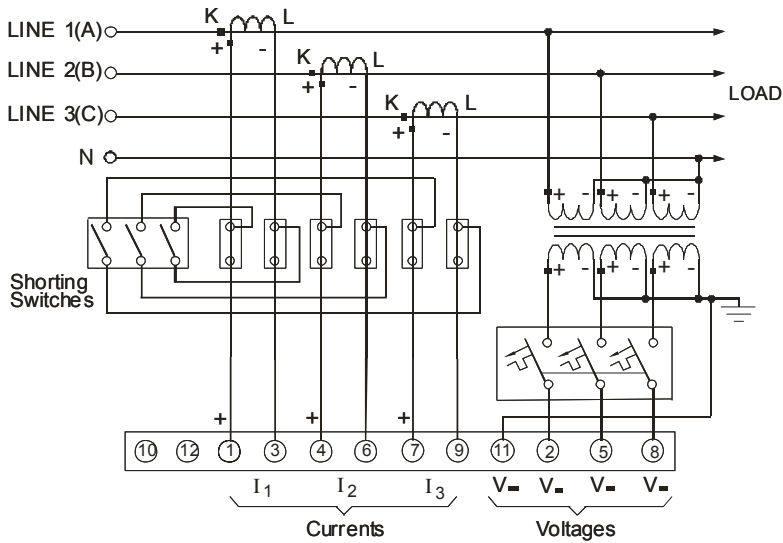

Figure 3-4
Input of 120V (Option U): To ensure accurate readings, the measured voltage between terminals 2-5, 5-8, 8-2, 2-11, 5-11 and 8-11 should not exceed 144V AC RMS and 225V amplitude. 120V input usually implies use of a potential transformer (PT). The PT requires use of any of the four wiring configurations shown in *Figures 3-4* through *3-7*.
4-wire WYE connection using 3 PTs, 3 CTs (3-element)	4Ln3 or 4LL3 (Figure 3-4)